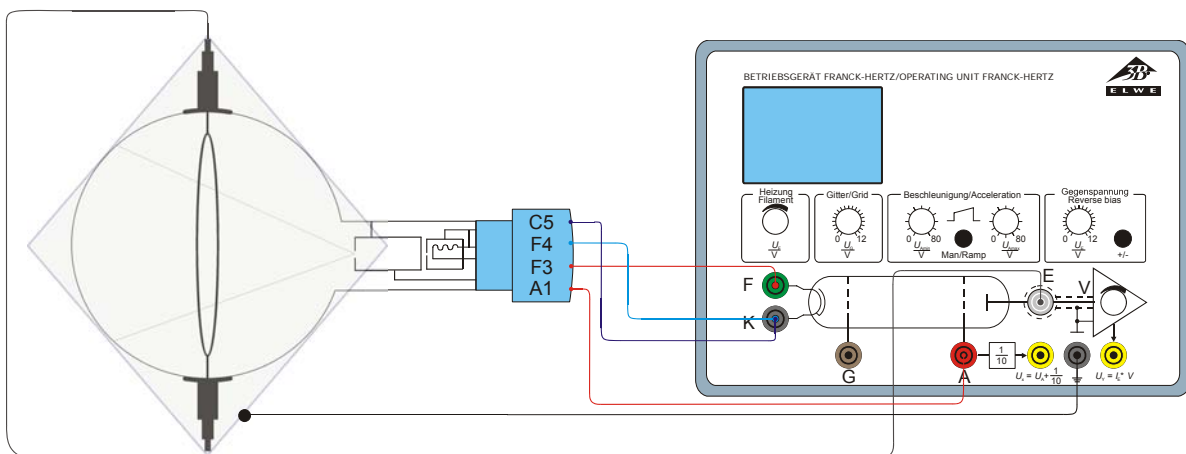

Fig. 5 Experiment set-up with the control unit for the Franck-Hertz experiment
- Connect socket F3 on the tube holder to socket F on the control unit for the Franck-Hertz experiment and connect socket F4 to socket K. (refer to Fig. 5)